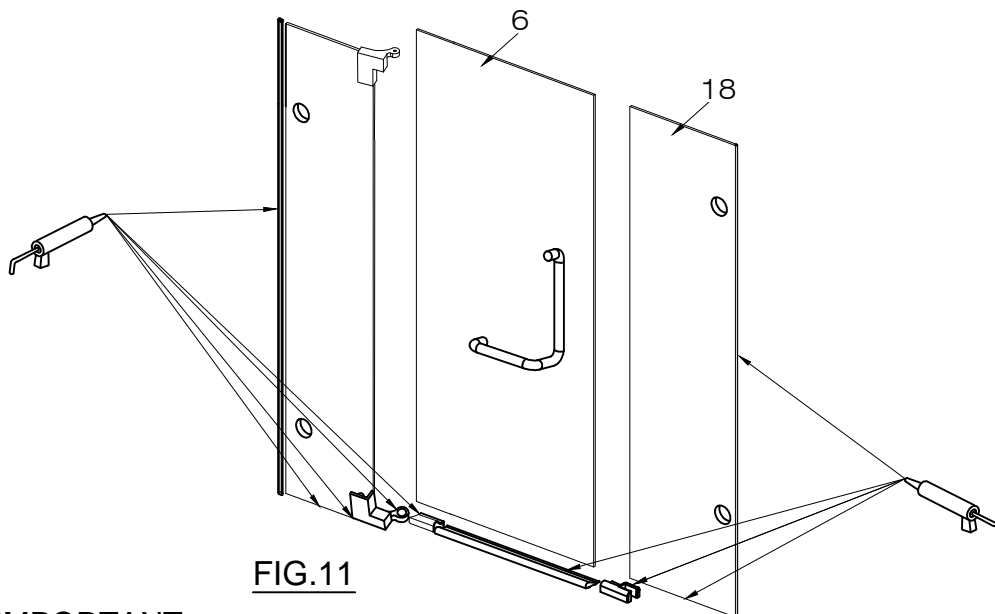

FIG.11
1. Apply clear silicone caulking to the inside between the wall and side seal strip. Repeat for the other side [SEE FIG.11].